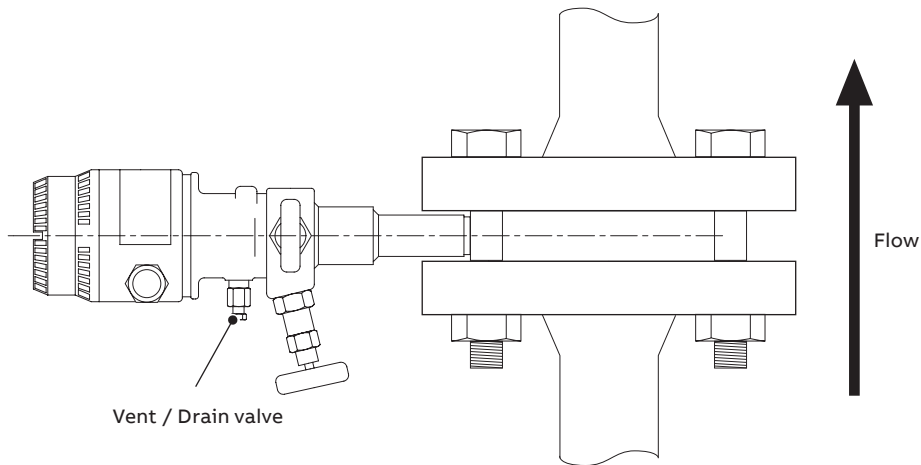

Figure 5 Vertical pipe mounting – gas
- for vertical pipe mounting – gas, refer to Figure 5, page 7.